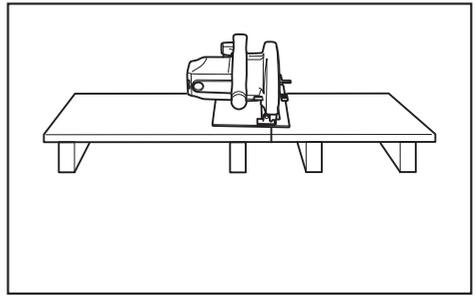

Fig. 1
8. **Support Large Panels (Fig. 1 & 2).**
Large panels must be supported as shown in Fig. 1 to minimize the risk of blade pinching and kickback.
10. **Guard Against Kickback. (Fig. 1 & 3)**
Keep blades sharp. Support large panels as shown in Fig. 1.